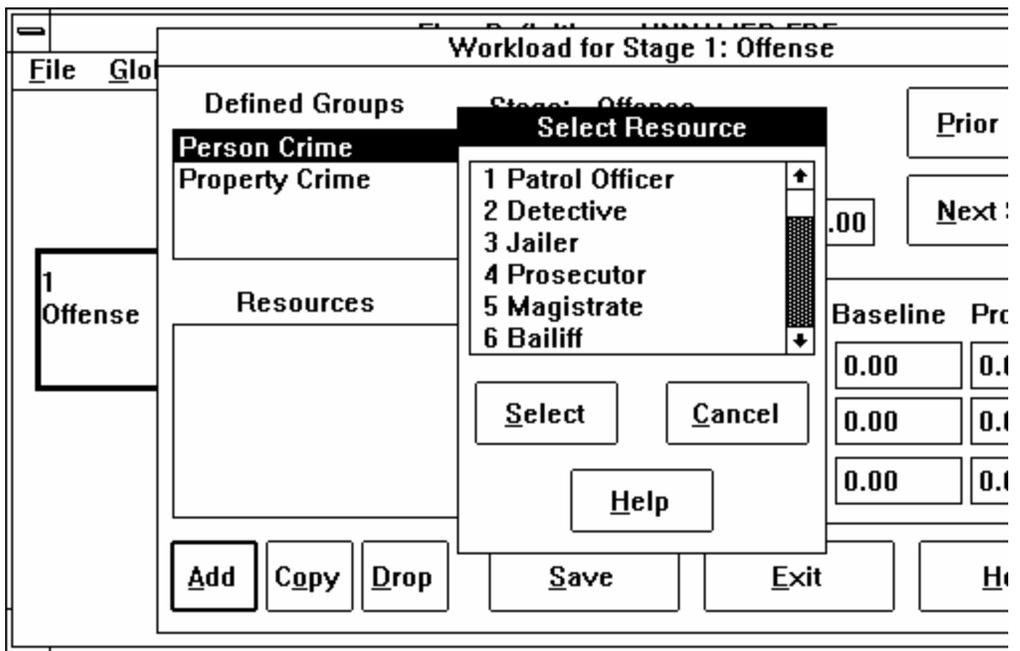

Figure 5-24. The Select Resource box.
4. Click the Add button. The Select Resource box will appear (Figure 5-24). It will display all the resources you previously defined with the Global Resources option.